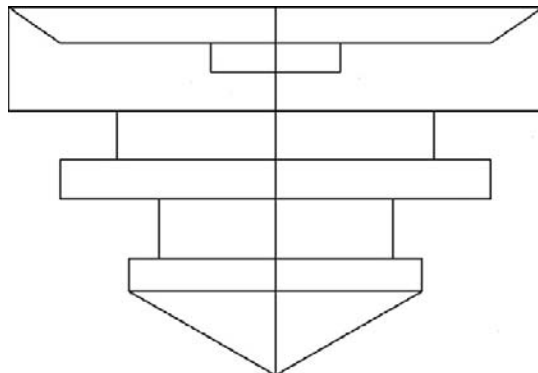

FIGURE 25.3
Step 5. Here, you can ask for a full 360° revolution by just pressing Enter, but instead type in 270, so we can see a cutout of the part. If you are in 3D, you can also just trace out the revolution angle with movements of your mouse. For now though, you see a 2D revolved surface, as in Figure 25.3.